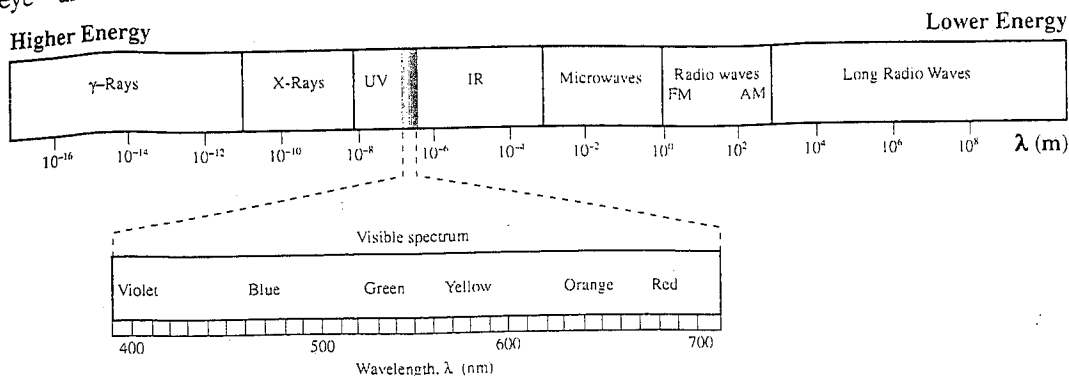

Figure 2. The Electromagnetic Spectrum.
the sun, infrared (IR) radiation which is given off in the form of heat, the microwaves used in radar signals and microwave ovens, and radio waves used for radio and television communication. Together, all forms of electromagnetic radiation make up the electromagnetic spectrum (see Figure 2). The visible portion of the electromagnetic spectrum is the only portion that can be detected by the human eye—all other forms of electromagnetic radiation are invisible to the human eye.